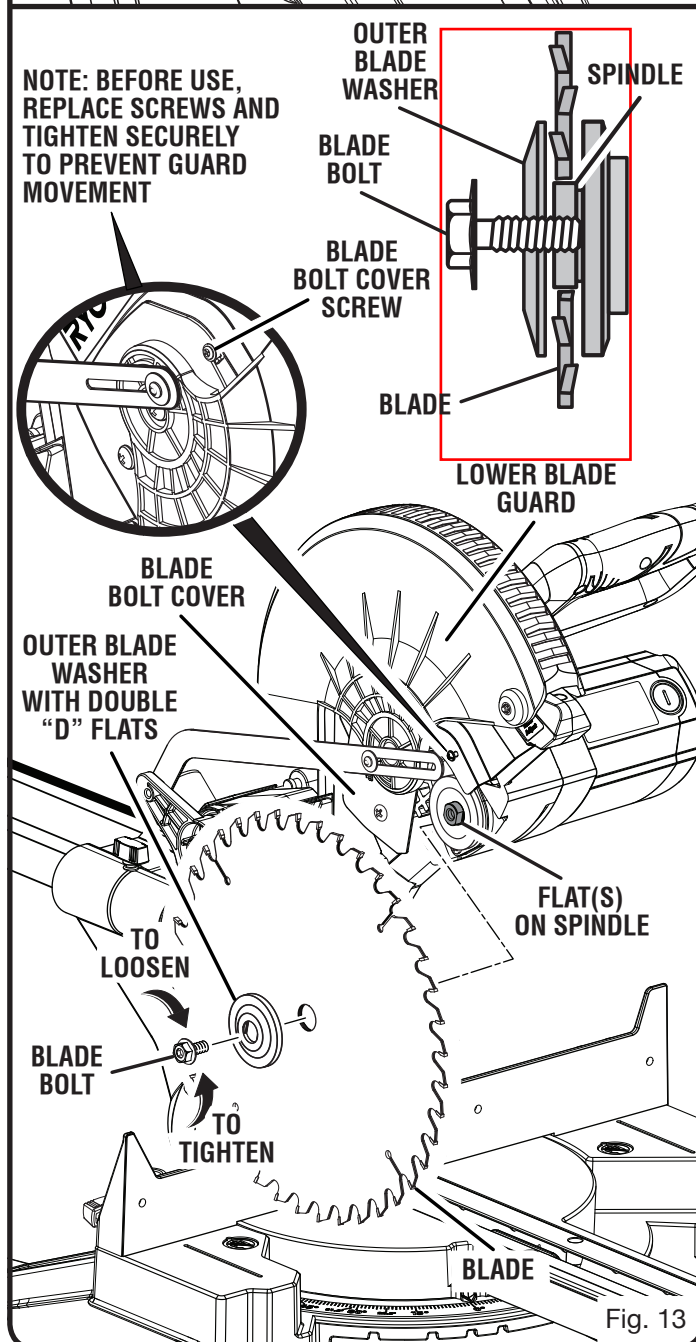

Fig. 13
- Fit saw blade inside lower blade guard and onto spindle. The blade teeth point downward at the front of saw as shown in figure 13.